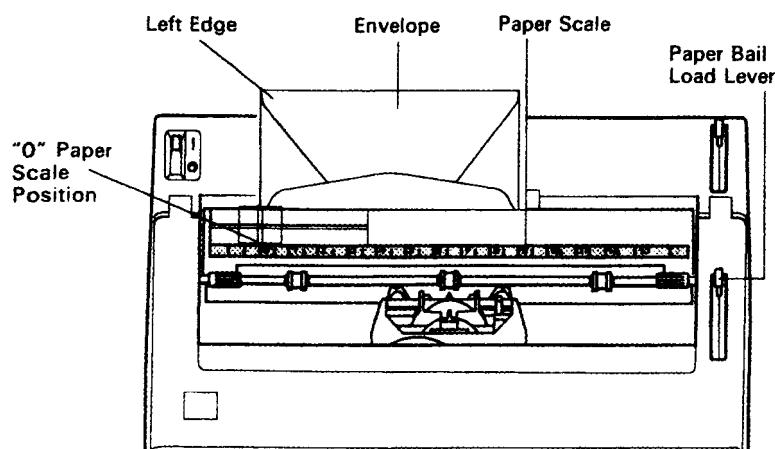

Figure 2-2.
3. Place the left edge of the envelope in the typewriter at the **0** paper scale position. (See Figure 2-2.)
3. Place the left edge of the envelope in the typewriter at the 0 paper scale position. (See Figure 2-2 on page 2-42.)